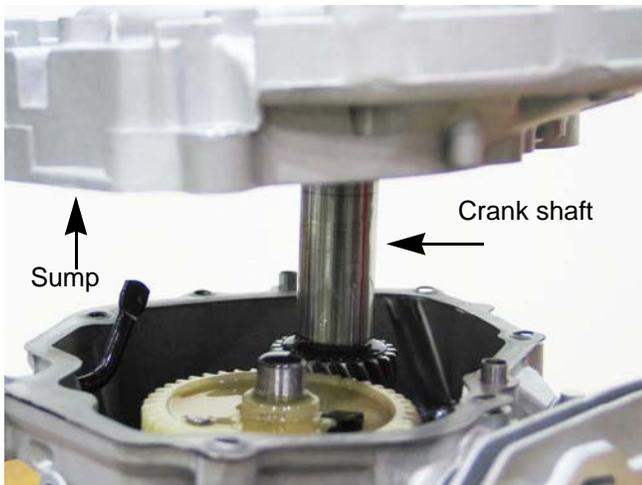

Figure 10.1
10. Carefully slide the sump off of the crank shaft. See Figure 10.1.